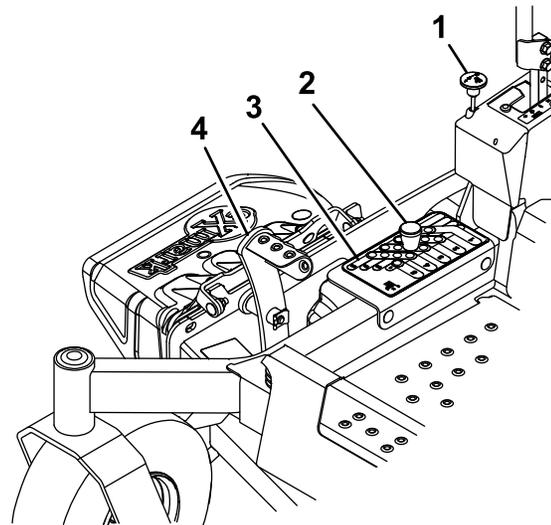

Figure 16
3. Raise and lock the deck to the transport position (Figure 16).